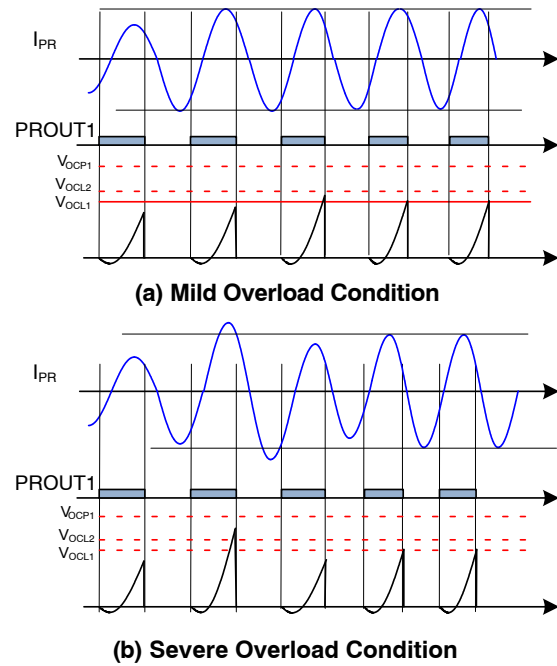
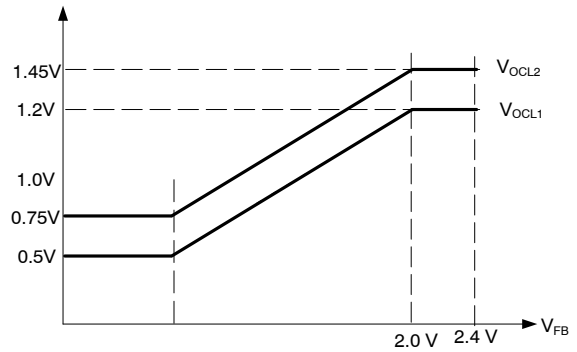

Figure 64. Current Limit of the ICS Pin by Frequency Shift (Compensation Cutback)
Figure 65. Current Limit Threshold Modulation as a Function of Feedback Voltage
3. Over-Current Limit: The  $V_{ICS}$  peak value is also used for input current limit. As can be seen in Figure 64, there exist two different current limits (fast and slow). When the  $V_{ICS}$  peak value increases above the slow current limit level ( $V_{OCL1}$ ) due to a mild overload condition, the internal feedback compensation voltage is slowly reduced to limit the input power. This continues until the  $V_{ICS}$  peak value drops below  $V_{OCL1}$ . During a more severe over load condition, the  $V_{ICS}$  peak value crosses the fast current limit threshold ( $V_{OCL2}$ ) and the internal feedback compensation voltage is quickly reduced to limit the input power as shown in Figure 64 (b). This continues until the  $V_{ICS}$  peak value drops below  $V_{OCL2}$ . The current limit threshold on the  $V_{ICS}$  peak value also changes as the output voltage sensing signal ( $V_{FB}$ ) decreases such that output current is limited during overload condition as shown in Figure 65. In addition, these limit thresholds change to higher values ( $V_{OCL1.BR}$  and  $V_{OCL2.BR}$ ) when the converter operates in deep below resonance operation for a longer holdup time (refer to holdup time boost function)